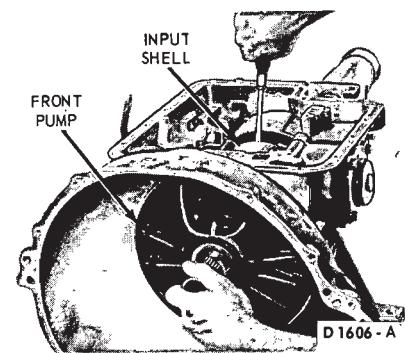

FIG. 25—Removing Front Pump
8. Remove the front pump attaching bolts. Pry the gear train forward as shown in Fig. 25 to remove the pump.